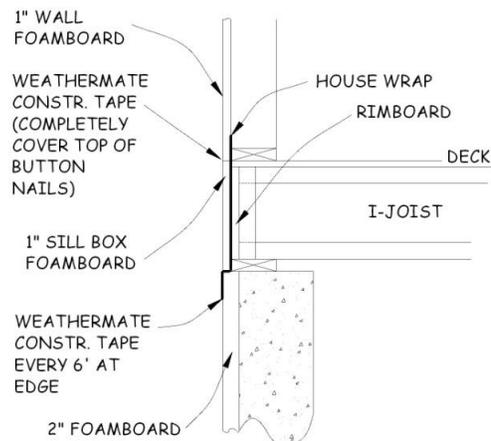

Figure 5-1. Taping Foamboard Seams.
NOTE: Once the wall is up and sheathed, the wrap will hang the proper amount below the wall to shed water away from the house, and the bottom of the wrap will fall slightly below the bottom of the foam sheathing. This will then require only one strip of 3" Weathermate™ Construction tape to seal the bottom foam joint and at the same time attach the bottom of the house wrap to the foundation foam. (See Figure 5.1)
1. At each wall panel, measure and cut 1" foamboard to fit tightly between the bottom of foamboard on the house wall and the foundation foam. Do the same below the OSB/½" foamboard wind bracing. When inserting the sill box foamboard, be sure the house wrap is behind the foamboard, leaving 3"-4" of wrap protruding from the gap above the foundation foam (see Figure 5-1). Nail with 2" button nails about 8" apart and 2" away from the top and bottom edges of the sill box foamboard.
- b. Continue taping other seams with Weathermate™ Construction tape **except for** the seam between the rim board foamboard and the foundation foamboard. **Do not tape the seam where the house wrap emerges from below the sill box foamboard.** Instead, tape the bottom of the house wrap to the foundation foamboard every 6' with a 6" piece of Weathermate™ Construction tape as shown in Figure 5-1.